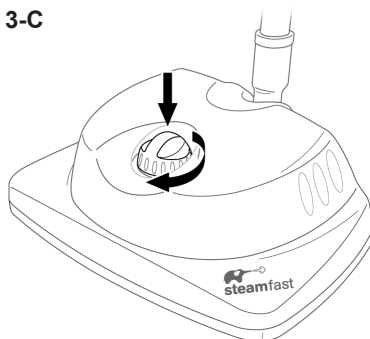

FIGURE 3
2. Carefully remove Boiler Cap by unscrewing it in a counter-clockwise direction (FIGURE 3-A).
3. Fill included Measuring Cup with 8.5 oz. (250 ml.) water, and pour into Boiler through Boiler Fill Hole (FIGURE 3-B).
5. Replace Boiler Cap by screwing it into Boiler Fill Hole in a clockwise direction until tight (FIGURE 3-C). Unit is now ready to begin steaming – refer to Page 9 for steam mopping instructions.